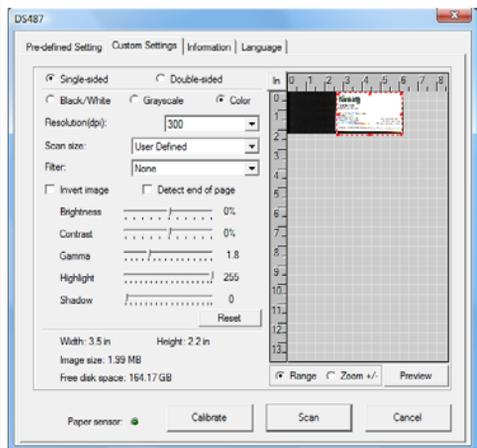

Figure 2
- 2) The second way is through the TWAIN control panel, which you can find by pressing the CUSTOM SETTINGS button on the AmbirScan control panel. The TWAIN control panel (Figure 2) allows you to control all details and settings of the scanner. This type of "fine-tuning" of your scans may be required for some of your document needs.